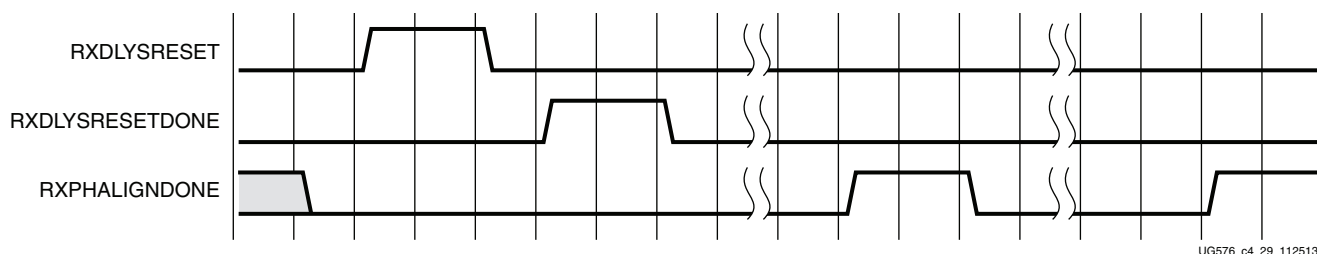

Figure 4-29: RX Buffer Bypass—Single-Lane Auto Mode
Figure 4-29 shows the required steps to perform the auto RX phase alignment and use the RX delay alignment to adjust RXUSRCLK to compensate for temperature and voltage variations.
Notes relevant to Figure 4-29:
1. The sequence of events in Figure 4-29 is not drawn to scale.